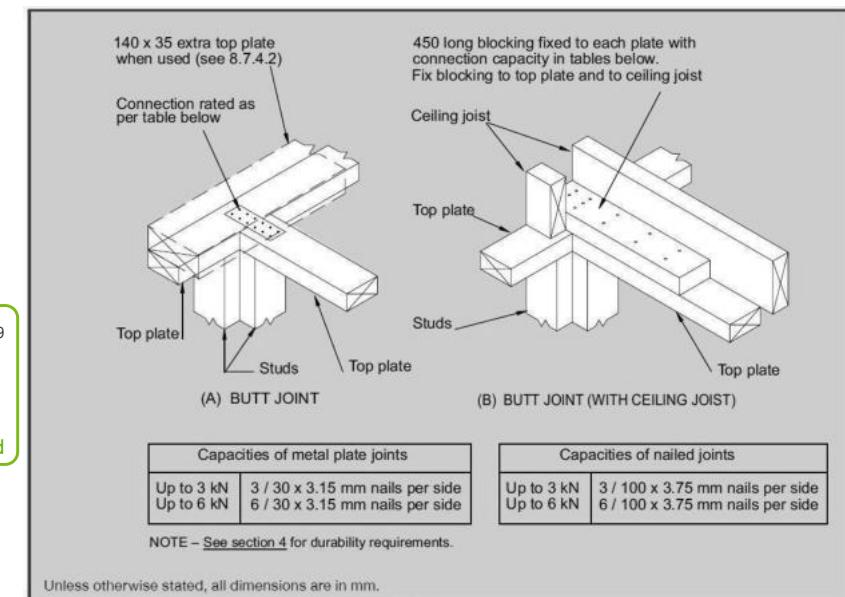

Figure 8.16 – Connecting top plates to external walls at right angles – Walls containing bracing (see 8.7.3.4)
- For each wall containing wall bracing elements with a total bracing capacity of not more than 125 bracing units: to at least one such external wall by a fixing as shown in figure 8.16 of 6 kN capacity;
- For each wall containing wall bracing elements with a total bracing capacity of not more than 250 bracing units: to at least 2 external walls by fixings as shown in figure 8.16 of 6 kN capacity;
- For each wall containing wall bracing elements with a total bracing capacity of more than 250 bracing units: to at least 2 external walls by fixings as shown in figure 8.16 each having a rating of not less than 2.4 kN per 100 bracing units.